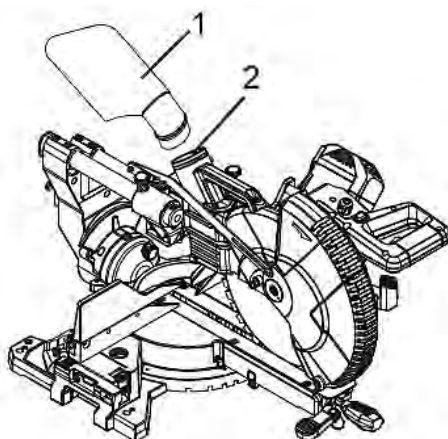

Fig. 8: Attaching the dust bag
Step 1: Insert the mitre handle (5) into the hole in front of the mitre saw and align the hole (6) on the mitre handle (5) with the hole on the front of the table.
Step 2: Insert the screw (7) through the hole in the table into the hole (6) on the mitre handle (5).
Step 3: Tighten the screw (7) with a screwdriver.
7.2 Attaching the dust bag (Fig. 8)